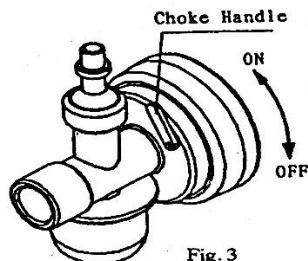

Fig. 3
4. **Regulating the choke**(see fig.3).When starting the engine in cold weather or starting it for the first time, pull the choke handle out to shut up the air passage; When starting a hot engine, leave the choke fully opened.